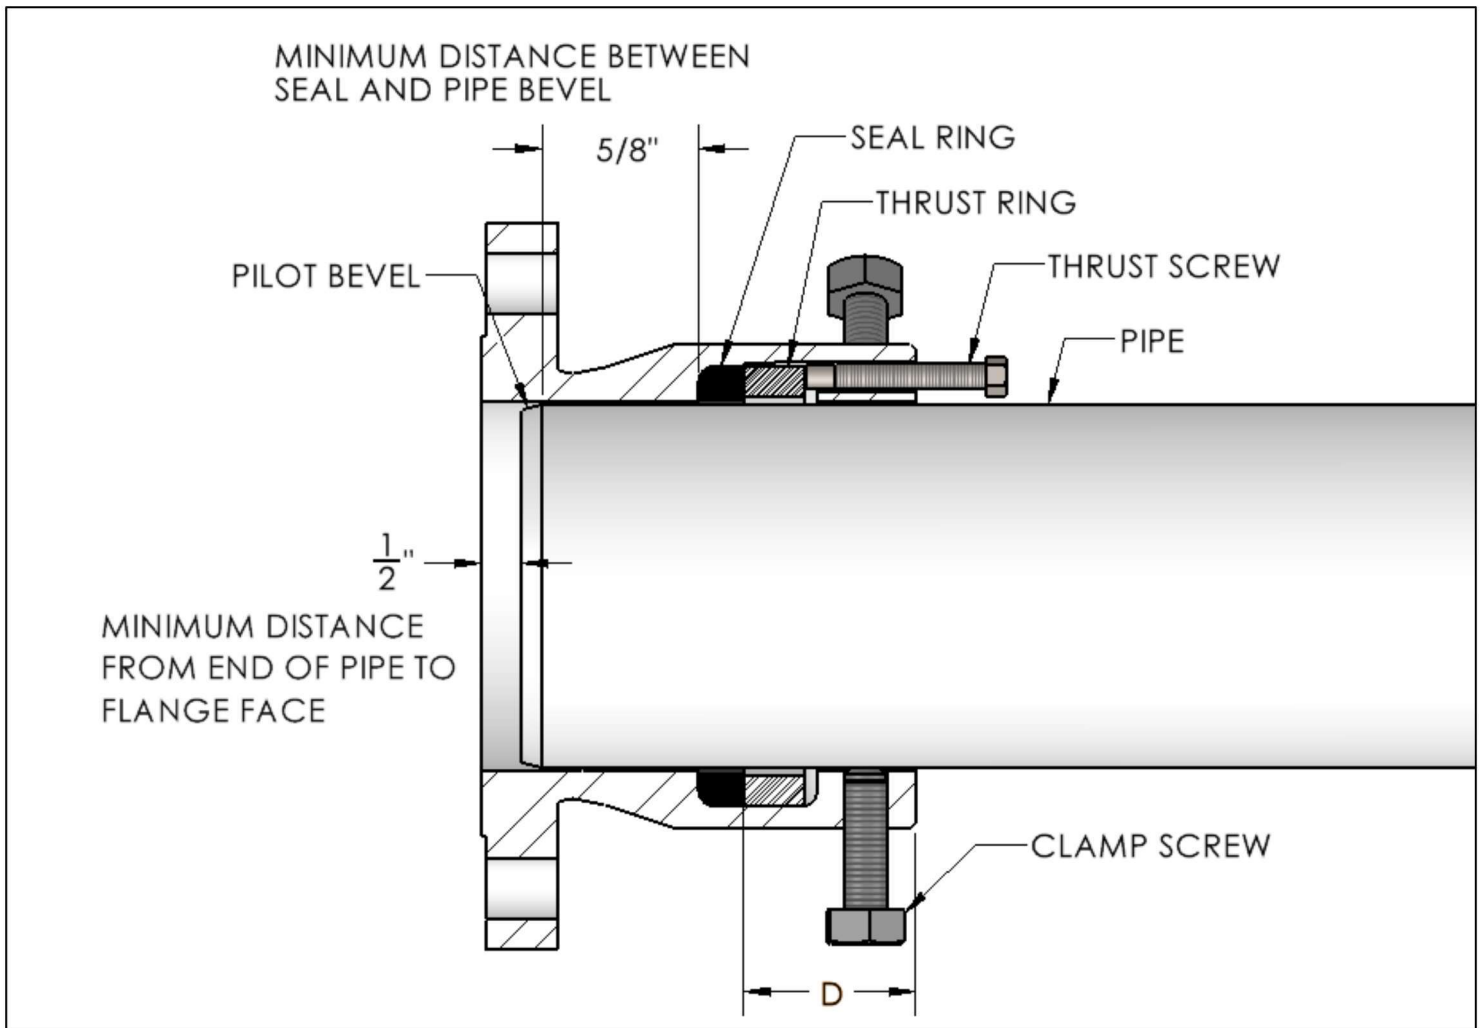

Figure 1
3. For badly misaligned or out-of-round pipe, it is helpful to grind a pilot bevel with a generous taper on the pipe. This will eliminate the risk of damage to the seals while slipping the PLIDCO Flange over the end of the pipe. (See Figure 1)
1. Measure and record dimension "D", as shown in Figure 1. This will be needed later if the PLIDCO Flange is welded to the pipe.
3. Slide the PLIDCO Flange over the pipe until the end of the pilot bevel is at least 5/8 inch (15.9 mm) past the seal ring. The distance from the end of the pipe to the flange face must not be less than 1/2 inch (12.7 mm). (See Figure 1)